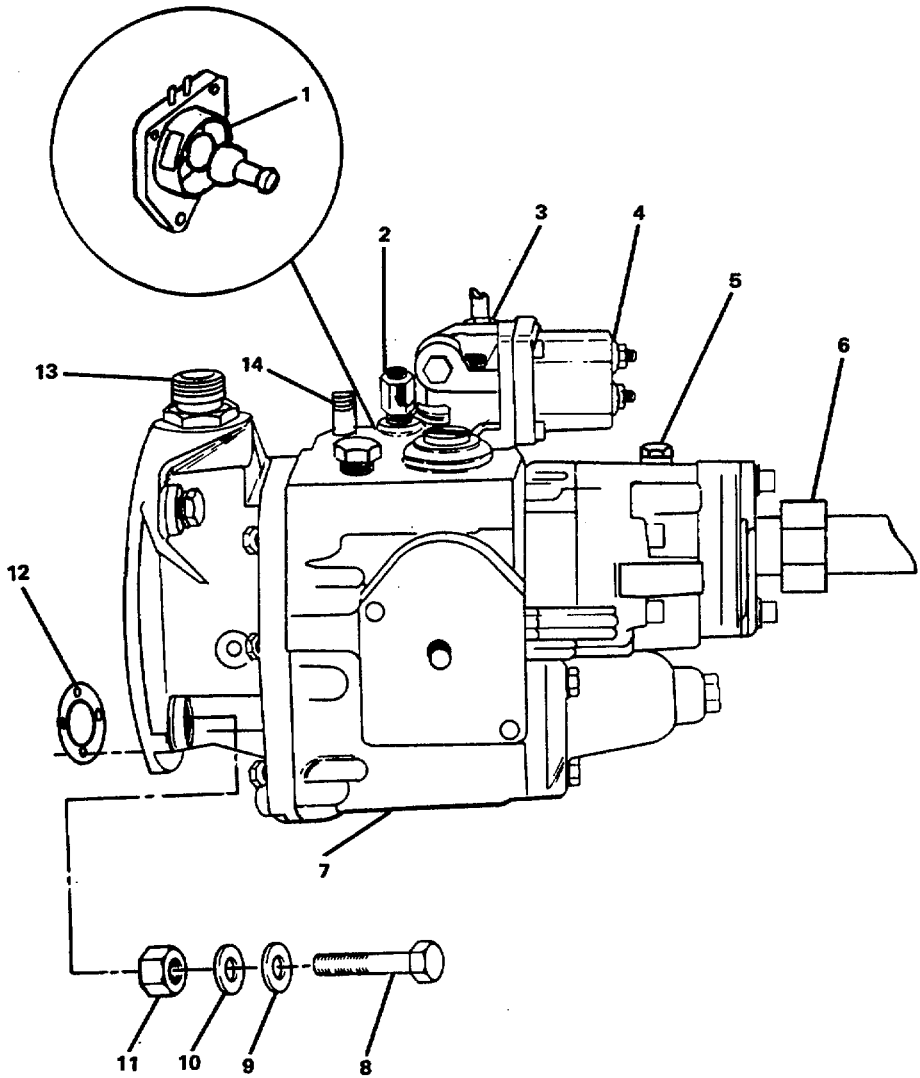

FIGURE 2-21. Pump, Fuel, Metering and Distributing Assembly.
- p. Connect preformed hose (32) to water transfer tube (1) and secure with hose clamp (2).
**2-37. REPLACE PUMP, FUEL, METERING AND DISTRIBUTING ASSEMBLY . (Figure 2-21)**